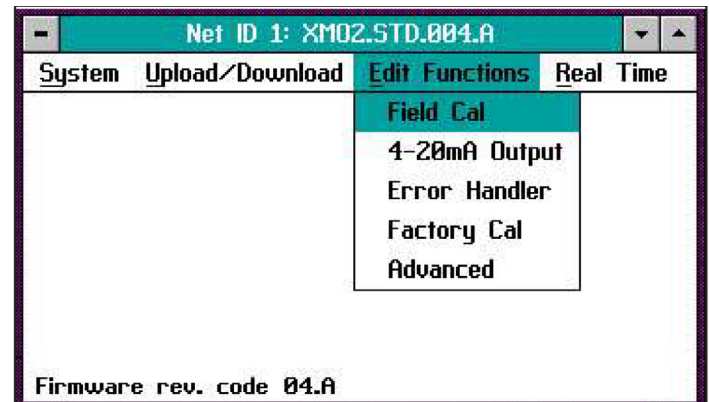
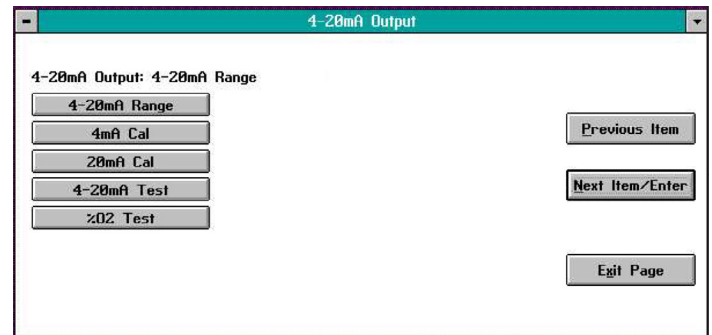

Figure 12: Edit functions menu
Figure 27: 4-20 mA output window
2. From the Instrument window, pull down the Edit Functions menu, as shown in *Figure 12* on *page 19*.
To access the XMO2 calibration, pull down the Edit Functions menu from the Instrument window. This menu consists of the five commands displayed in *Figure 12* below. To access any of the commands, simply select it from the menu.
The XMO2 *Calibration Sheet* shipped with the unit lists the 4-20 mA analog output range that was set at the factory. IDM enables you to change this range via the *4-20mA Output* option. After you click on the *4-20mA Output* button from the *Edit Functions* menu (Figure 12 on page 19), a window similar to Figure 27 below opens. Clicking on any option opens the window for that option, while clicking on *Next Item/Enter* opens the menu listed on the status line above the options.
**Note:** Clicking on the *Next Item/Enter* button selects the option listed on the status line above the option buttons (*4-20mA Range* in Figure 27 above). The option listed on the status line in any window is the option that was chosen the last time that menu was used.